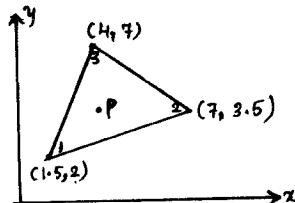

Fig Q5(b)
- b. Determine the shape functions ( $N_1, N_2, N_3$ ) for a triangular element shown in Fig Q5(b). The X co-ordinate of interior point P is 3.85 and Y co-ordinate of interior point P is 4.8.